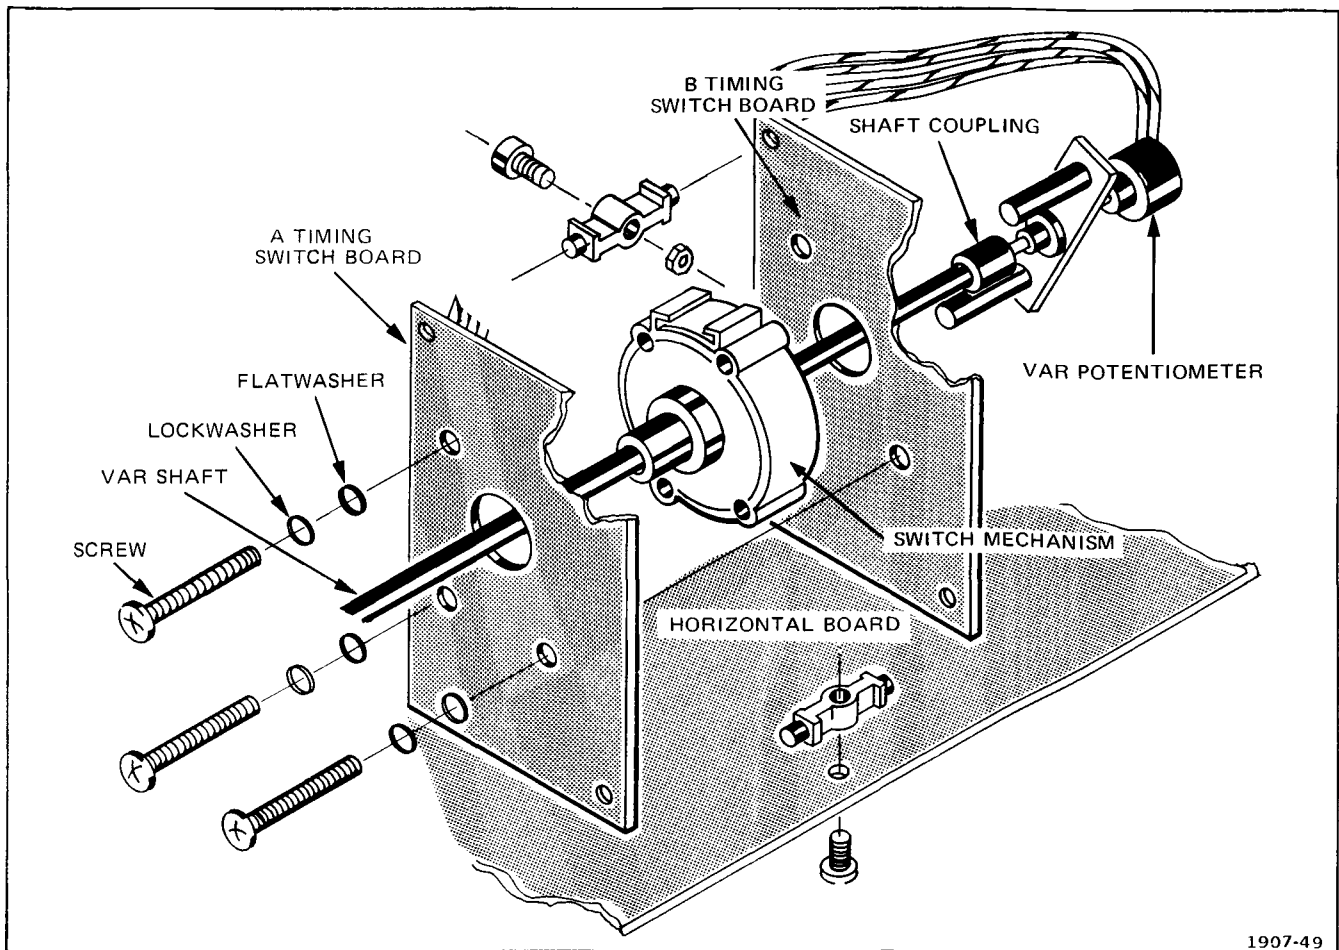

Fig. 5-11. A and B timing switch disassembly.
3. Remove the two screws and hex nuts holding switch board assembly to Horizontal board, see Fig. 5-11.
To separate A and B timing boards (Fig. 5-11).